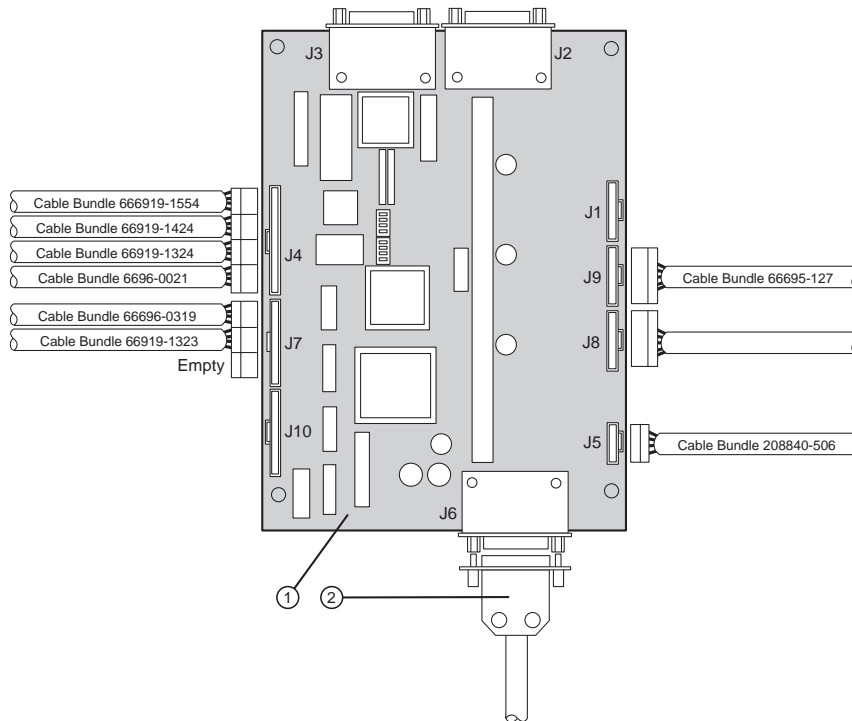

Figure 1-21 Attaching the connectors to the bridge/buffer interface board.
6. Wrap the wires under the shuttle motor into a P-clamp. Using a hex screw and two (2) star lock washers, secure the clamp to the bridge support casting.
8. Install the bridge connectors to the bridge/buffer board using the wire and plug designations shown in Figure 1-21.